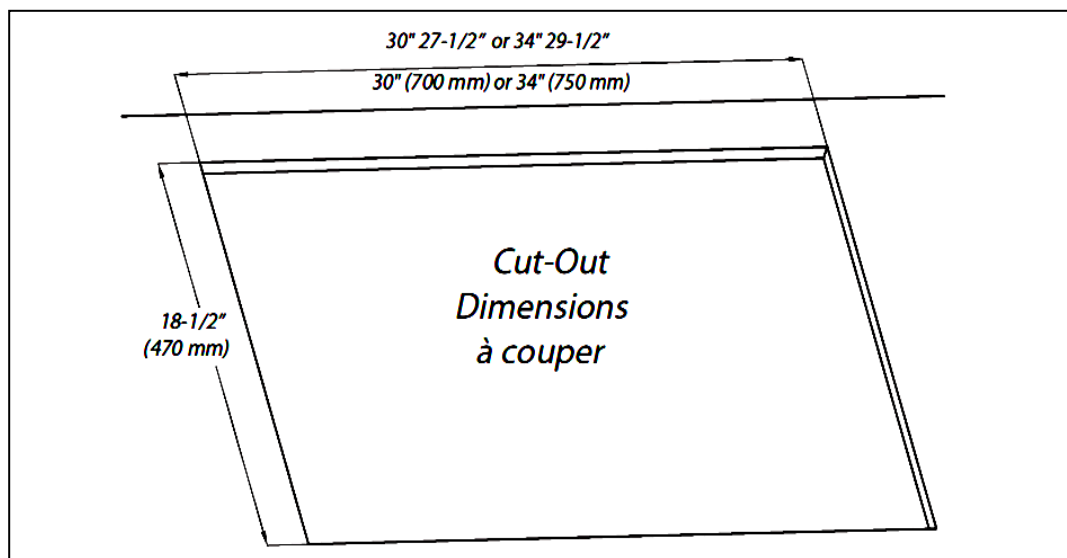

Figure 9
- 2) Cut the opening in the countertop. To ensure accuracy it is best to make a template (see Figure 9) for the opening. Make sure the sides are parallel also rear and front cuts are exactly